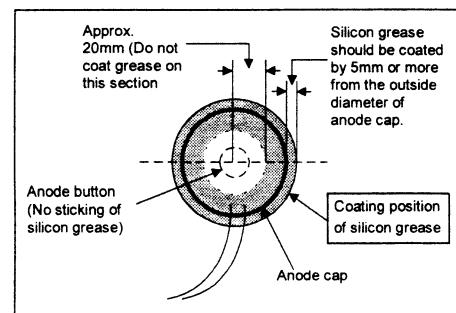

Fig. 8
- Coat silicon grease on the section around the anode button. At this time, take care so that any silicon greases dose not stick to the anode button. (Fig.8)